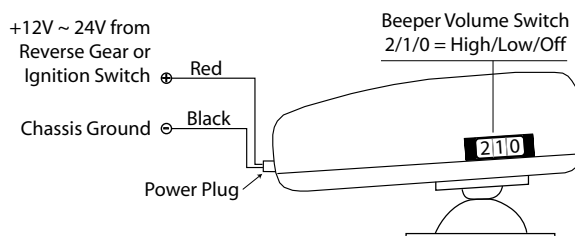
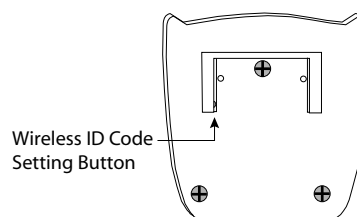

Fig.4 Wireless Display (Side View)
Fig.5 Wireless Display (Bottom View)
- d) Connect the red wire of the power cable to the +12V (or +24V) wire (Fig. 4).
- e) Connect the black wire of the power cable to the (-) negative or chassis ground (Fig. 4).
(b) The display has a built-in beeper (audible alert) with volume switch (High/Low/off) on the left side of the display (Fig. 4) and an ID code setting button on the bottom of the display (Fig. 5).